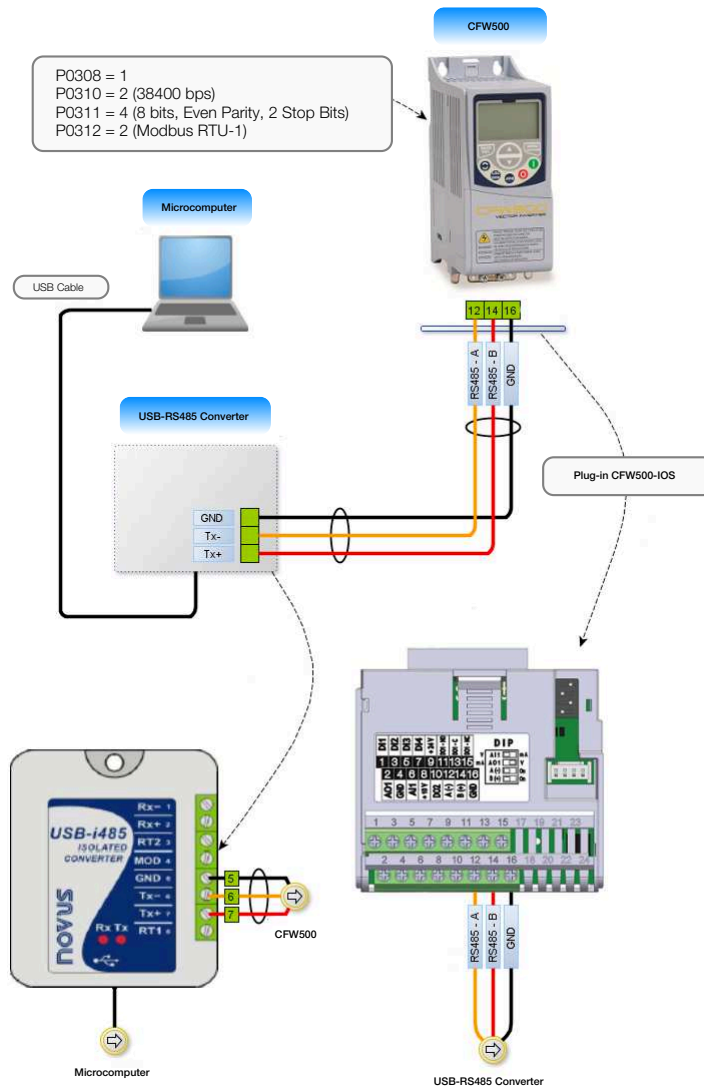

Figure 2.2: Interface available for CFW500
The CFW500 frequency inverter could be updated by any plug-in, using the ModBus protocol and the serial interface 1, however a USB-RS485 interface converter is required. The inverter must be parameterized, and the connections made as shown in Figure 2.2 on page 2-2.
NOTE! The USB-RS485 converter does not necessarily have to be the model shown in the Figure 2.2 on page 2-2. Any converter from any manufacturer can be used. However, it is recommended to use the USB-RS485 interface converter from Novus (item 11511558).
NOTE! If the remote HMI is connected to the product, it must be disconnected before realize the connection showed in Figure 2.2 page 2-2
The interface configuration setup shown in Figure 2.2 on page 2-2 must be in accordance with parameters P0308, P0310, P0311 and P0312 adjusted on the device. Click on "Test" and after identification (Online device), click on "Next".